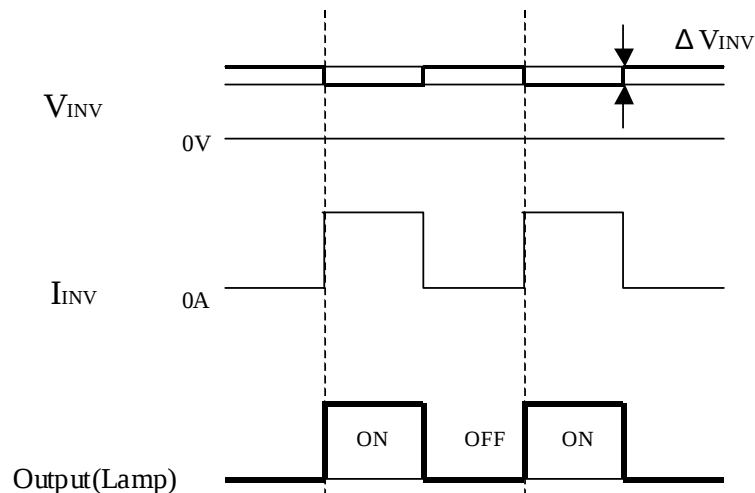

Fig.5 Brightness control and ripple of V_{INV}
- Brightness control voltage is switched for "ON" and "OFF", as shown in Fig.5. Voltage difference generated by this switching, ΔV_{INV} , may affect a sound output, etc. when the power supply is shared between the inverter and its surrounding circuit. So, separate the power supply of the inverter circuit with the one of its surrounding circuit.